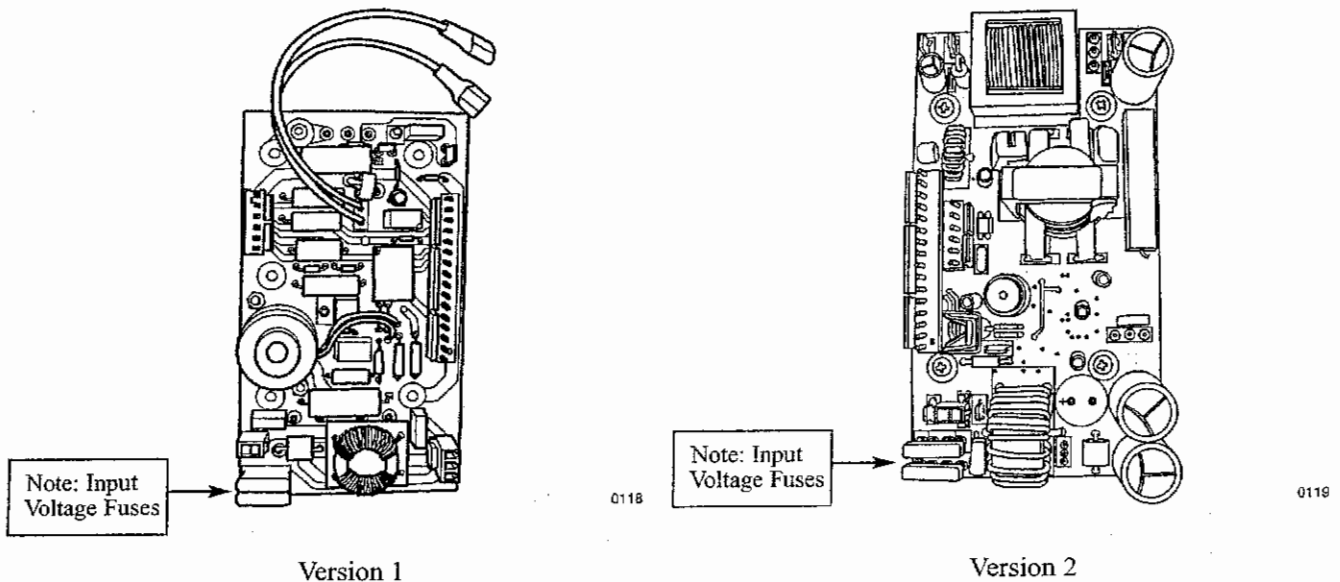

Figure 18 - Printed Wiring Boards
The GEM 72-volt system may employ one of two Printed Wiring Boards (PWBs). The latest version (see figure 18, Version 2) has an integrated DC-DC converter. The earlier version (see figure 18, Version 1) has the DC-DC converter mounted separately and behind the Printed Wiring Board. Both versions of the PWB serve principally as an interface and signal-conditioning module. Signals between many of the GEM circuits pass through the PWB including the turn signal module and blinker, fuse module and headlights, key switch and battery charger, direction/turf switches and the motor controller.
5. Gently lift PWB off the converter mounting posts located directly behind the PWB (see figure 18).